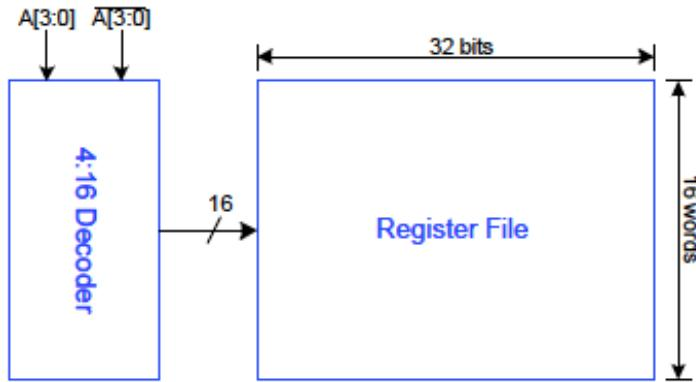
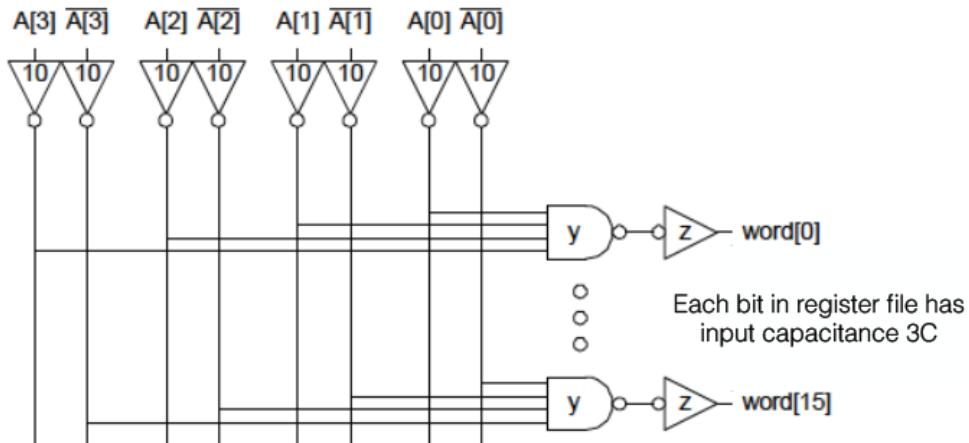

Figure 3: The register file with its 4-to-16 decoder.
Figure 4: A detailed schematic of the decoder circuitry.
- c) In Figure 2 is also a plot of the derivative of the VTC for the X output (the red dash-dotted line). From the data given in Figure 3 calculate the noise margin for the X output. The graph in Figure 3 is repeated in larger scale on the next page. (4 p)
3. **Logical effort, path effort** In Figure 3 you see a block diagram schematic of a register file with 16 32-bit words and a 4-to-16 decoder that selects one of the 16 registers according to the address $A[3:0]$. In this problem your task is to size the decoder circuitry shown in detail in Figure 4.
- How should the 4-input nand gate (y in Figure 4) and inverter (z in Figure 4) be sized for minimum delay with the assumptions given in Figure 4? Assume that an nMOS transistor has twice the current of a pMOS transistor of the same width. (5 p)